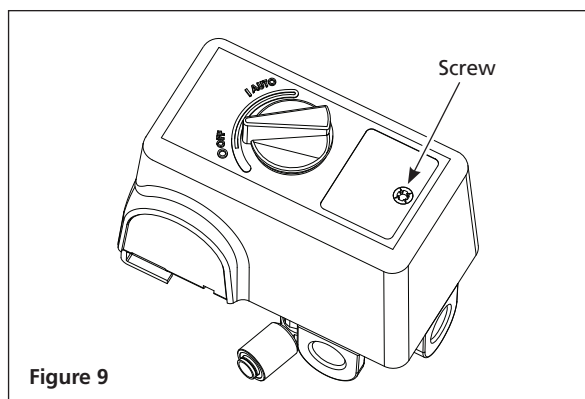

Figure 9
- Remove the pressure switch cover by loosening the screw (see Figure 9). Use a Phillips screwdriver (not included). Pressure switch styles may vary.